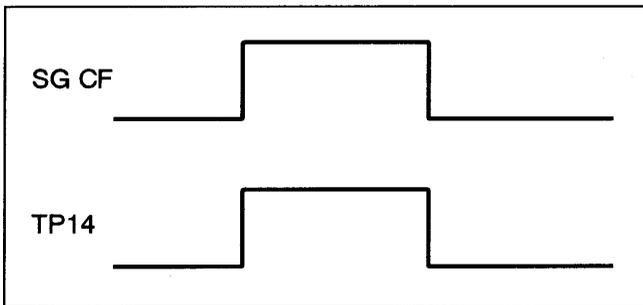

Figure 1
SPEC.	Refer to Figure 1
3. Adjust VR6 so that the burst position becomes as shown in Figure 1